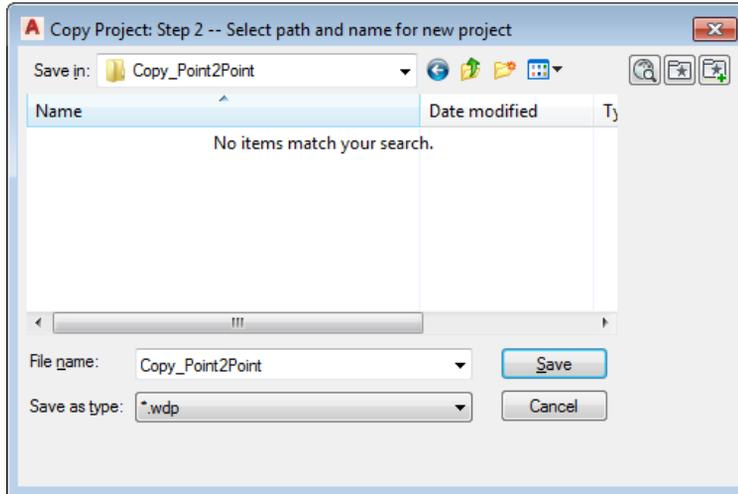

Figure 2-69 The Copy Project: Step 2 -- Select path and name for new project dialog box
4. Double-click on the **Copy_Point2Point** folder in the **Copy Project: Step 2 -- Select path and name for new project** dialog box and then enter **Copy_Point2Point** in the **File name** text box, refer to Figure 2-69.